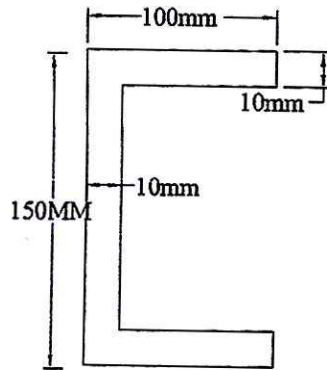

Fig. 4
- (b) A channel section is shown in Fig. 4. It is used as a beam and carries a shearing force of 40 kN. Obtain the maximum shear stress and draw shear stress distribution diagrams : [6]